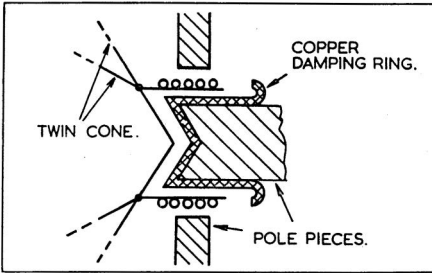

Fig. 3—The method adopted by Philips for using a damping ring on the speaker pole-piece.
Third on the list is the clever use of a fixed copper damping ring, let into the pole-piece by Philips in their new series of high fidelity speakers. This idea originated with Olsen (Fig. 3). Very briefly, the inductance of the speech coil is one of the main factors which limit the high frequency response of a
**Fig. 3** shows a push-pull version of **Fig. 2**—really two single ones placed front-to-front. This is actually a very old design by Hans Vogt in Germany, on sale around 1930. This reduced distortion considerably, but still only when the diaphragm movements were small. The moving coil speaker could reproduce bass with very much less distortion, so the E.S.L. was eclipsed for quite a long time.